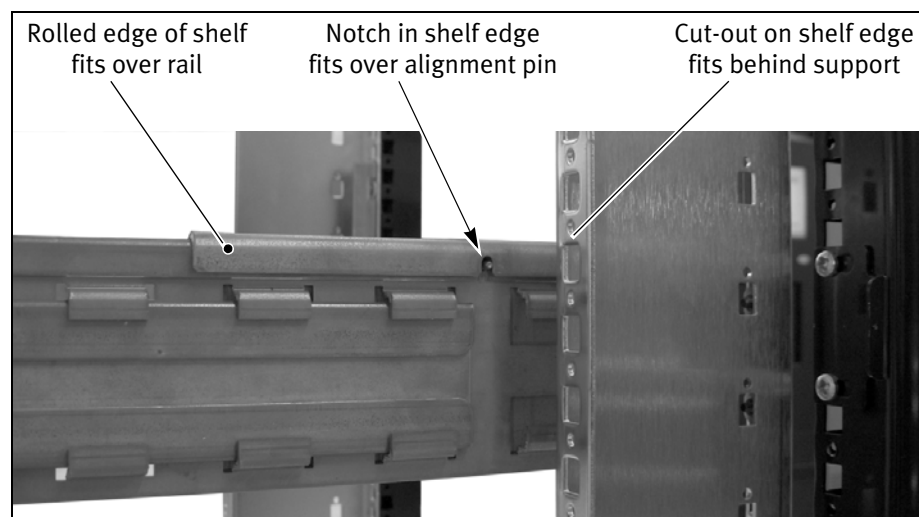

Figure 5 Install the front shelf over the rails.
2. Position the shelf so that the rolled edges fit over the rails on either side. Slide the shelf toward the front until the notches in the edges fit over the alignment pins extending from each rail (Figure 5).